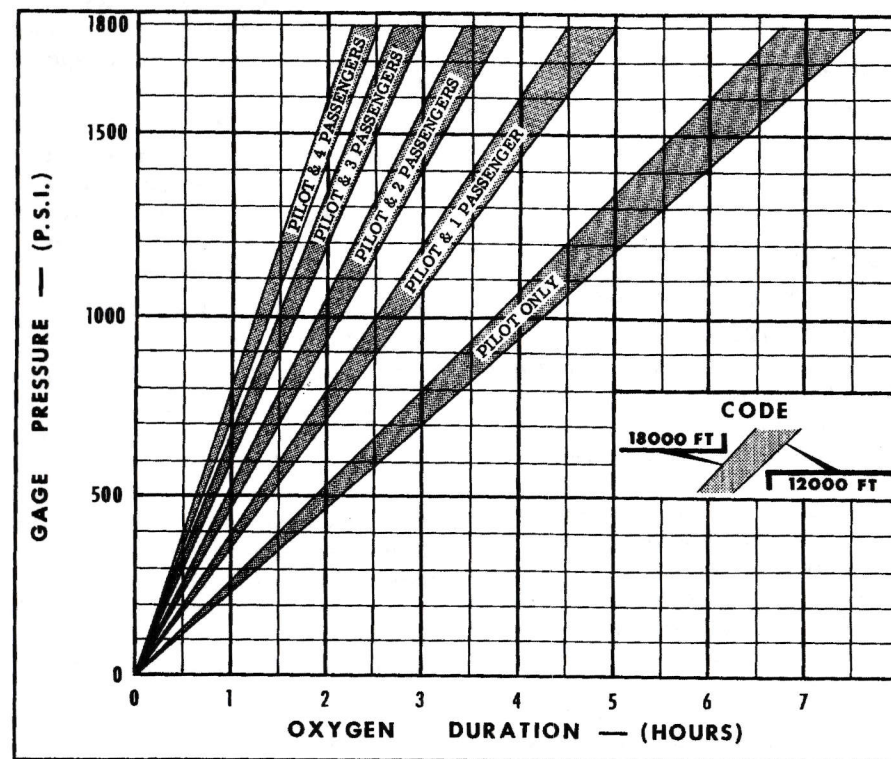

Figure 1-7. Oxygen System Duration Chart
An optional oxygen system may be installed in your airplane to permit flight operations at altitudes where the atmospheric oxygen is insufficient for safe pilot and passenger consumption. The system will automatically supply the demands of a pilot and four passengers for an average of better than two hours (refer to the Oxygen Duration Chart, figure 1-7). System components include a high pressure oxygen cylinder utilizing an external filler valve, a pressure gage, automatic
2. Oxygen pressure gage — Check for sufficient pressure for anticipated requirements of the flight (see Oxygen Duration Chart, figure 1-7).